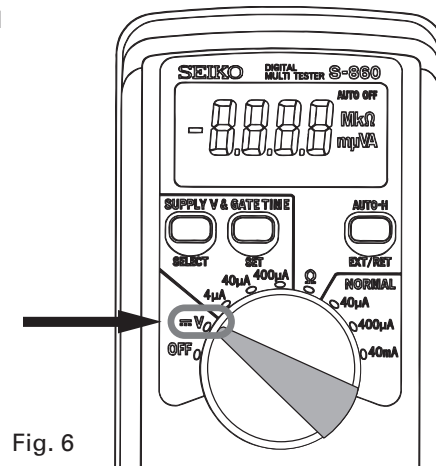

Fig. 6
* When measuring the voltage using the SEIKO digital multi-tester (S-860), use the range of V (Fig. 6.)